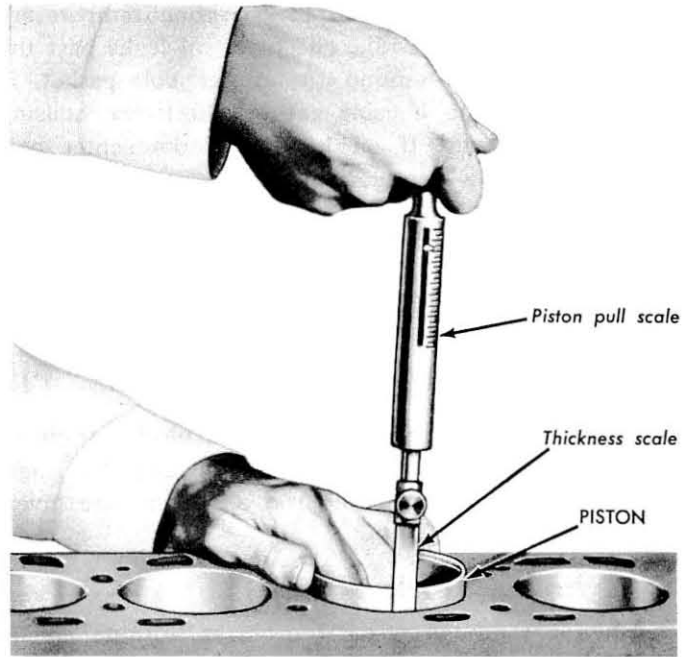

Fig. 47—Piston Fit Check—Typical
(3) **FITTING PISTONS.** To fit a piston in the cylinder bore, attach a tension scale to the end of a feeler gauge ribbon which is 1/2-inch wide and which has the proper thickness. Position the feeler on the side of the piston 90° from the piston pin hole. Invert the piston, then push the piston and feeler into the bore so the end of the piston is approximately 5/8-inch below the top of the block. Keep the piston pin bore parallel to the crankshaft axis. Hold the piston and pull out the feeler ribbon, noting the reading on the pull scale (fig. 47).